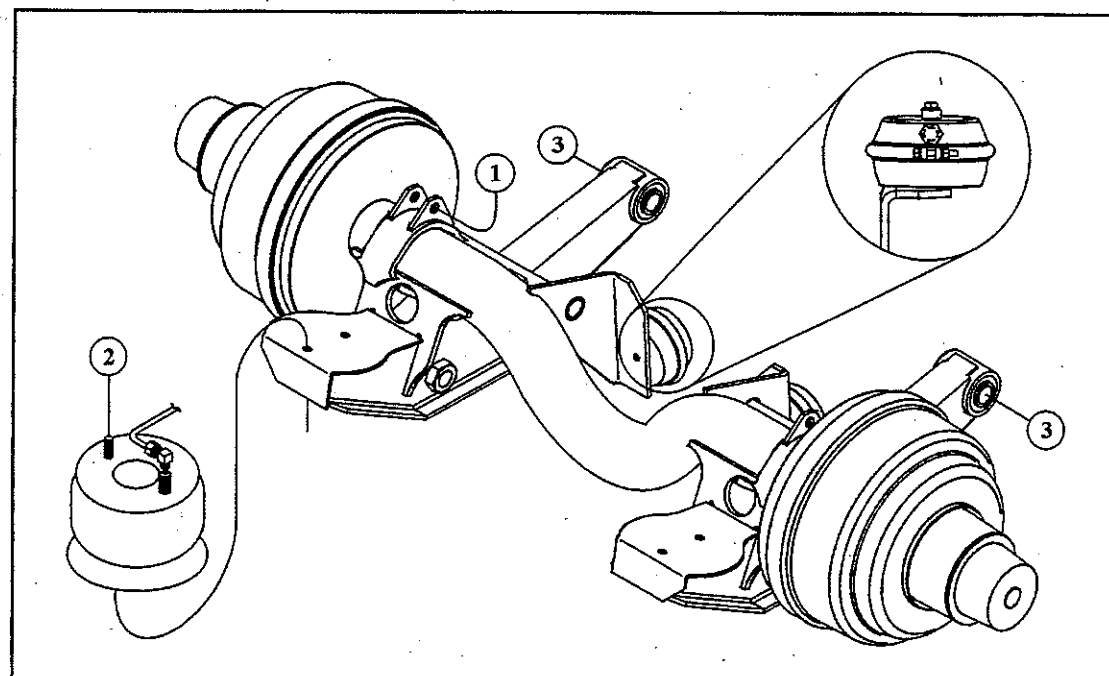

Figure 9—Fixed/Tag Axle
1. Disconnect all air lines to air bags and air brake cambers. (See Figure 9—Fixed/Tag Axle.)
3. Remove the bottom bolt (1) from the both shock absorbers.
4. Remove both air bags (2) from the beam assembly.